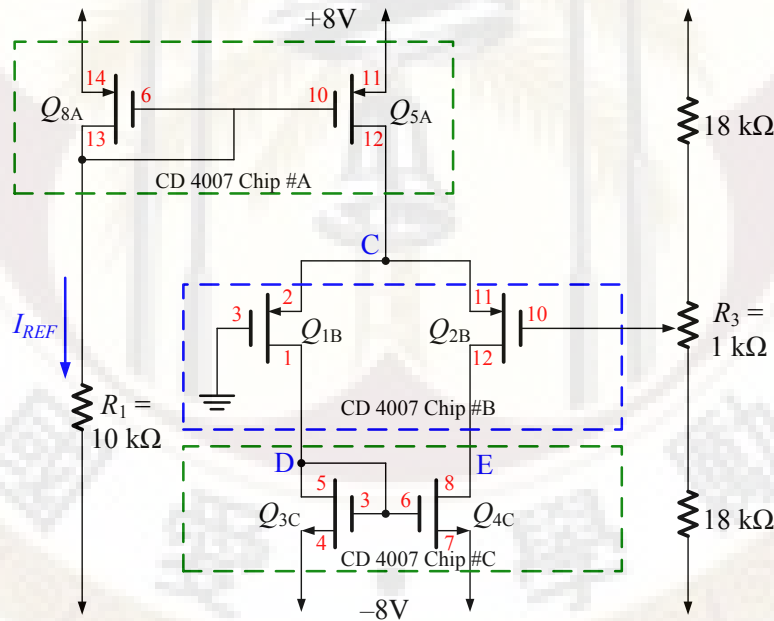

Fig. 6 DC Analysis of Two-stage OP-Amp circuit
- a. In Fig. 6, adjust VR ( $R_3$ ) 1 kΩ and use multi-meter to measure  $V_A$  and  $V_E$ , and check whether  $V_E$  is adjustable. If it not so, trouble shoot the circuit. Check whether there is any wrong layout in your breadboard and whether the VR ( $R_3$ ) is functional by multimeter.